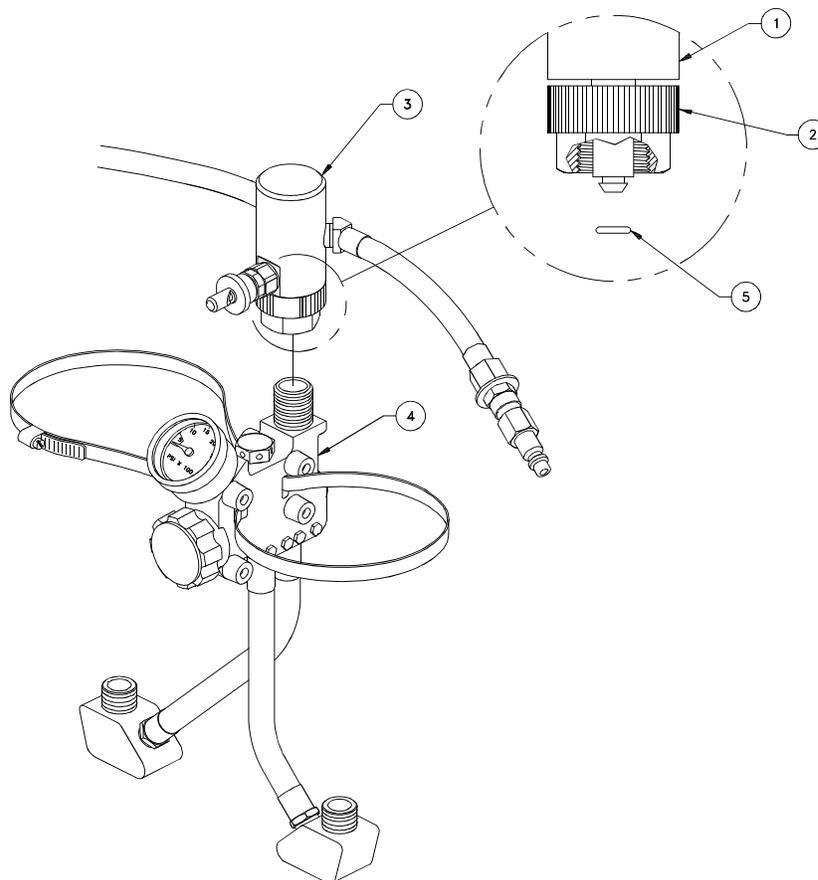

Figure 6-18. CGA-346 Connector and O-Ring
- (2) Screw MMR into front of facepiece.
- (3) Conduct a facepiece leak test IAW MRC 5519 M-1R.
6.7.9 CGA-346 Hand-Tight Nut-Type Connector, O-Ring Removal and Replacement (Figure 6-18).